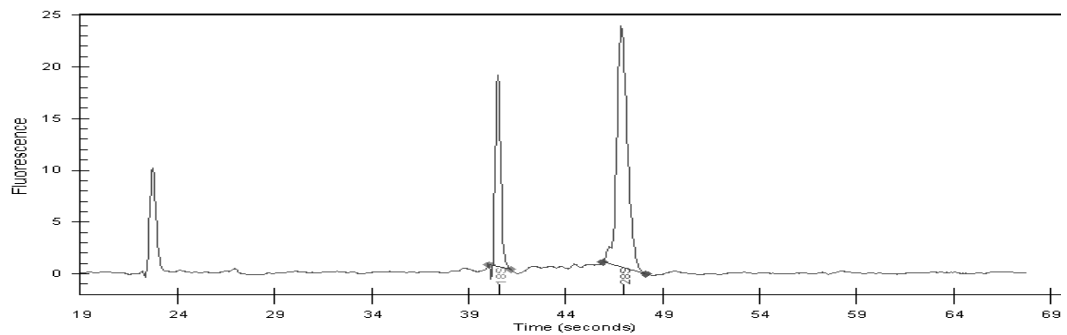

Figure 2.1.2
- Integrity of total RNA samples can also be assessed qualitatively on an Agilent 2100 Bioanalyzer. Refer to Figure 2.1.2 for an example of good-quality total RNA sample.